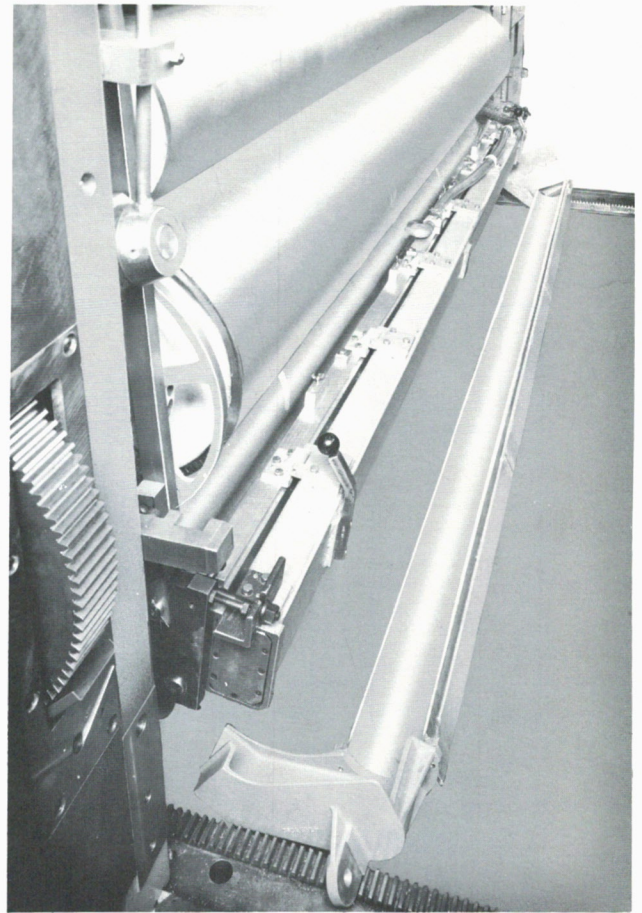

FIGURE 4-23. REMOVING THE INK TROUGH
- Step 11) Loosen the trough locking bolts (Figure 4-23) at both ends of the trough, remove and clean thoroughly.